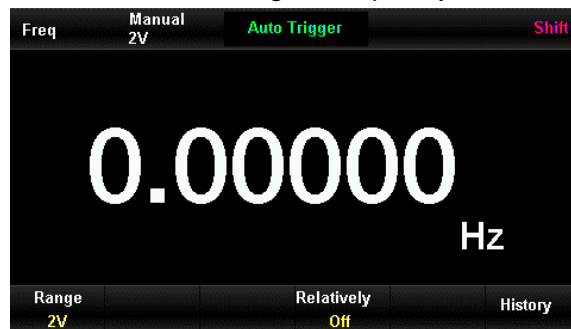

Figure 2-19 Interface of signal frequency measurement
- 1) Press  button to enter interface of signal frequency measurement as Figure 2-19.